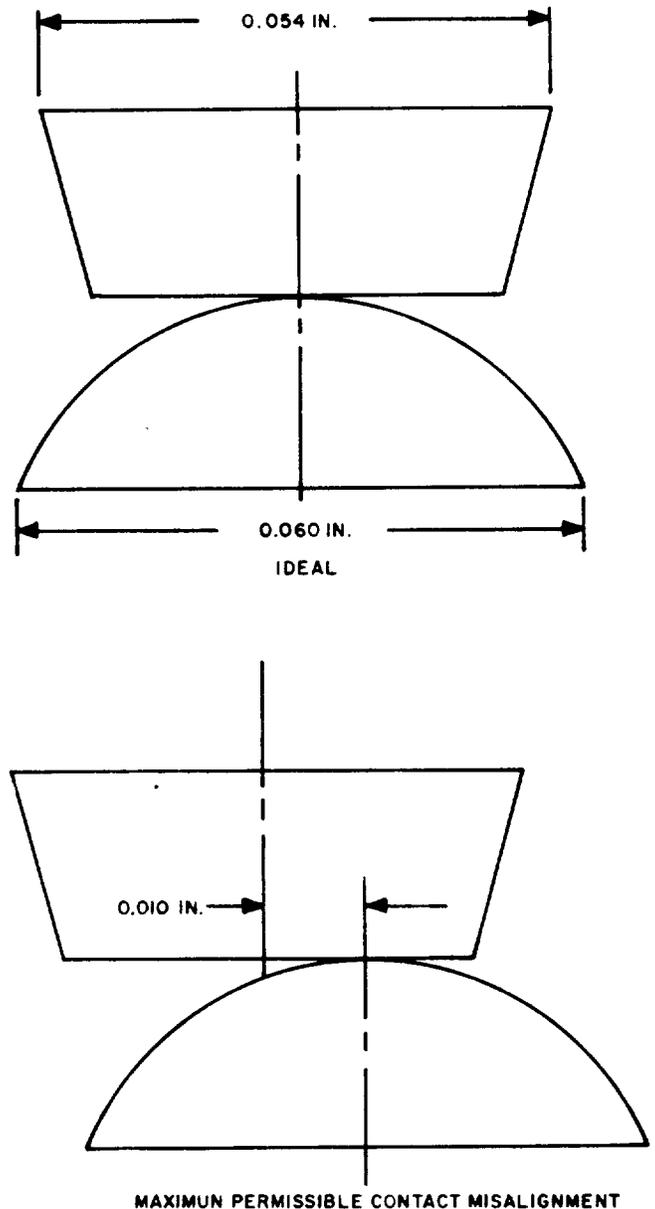

Fig. 4.1—Dome-Shaped Contact Mating With a Bar Contact
1.002 This addendum is issued to revise 4.01 and to add new Fig. 4.1.
4.01 When replacing a point- or disc-type contact, its mating contact must also be replaced. Also, if there is a point-type contact on the opposite side of the spring from the contact to be replaced, the contact on the opposite side and its mate must also be replaced. On step-by-step relays with dome-shaped contacts and on relays equipped with springs having single bar contacts, do not replace the mating contact if it is not necessary. In this case, the dome must lie wholly within the length of the bar and the center line of the dome must be within 0.010 inch of the center line through the width of the bar as gauged by eye. (See Fig. 4.1.)
2.002 On Page 8, add Fig. 4.1—Dome-Shaped Contact Mating With a Bar Contact.